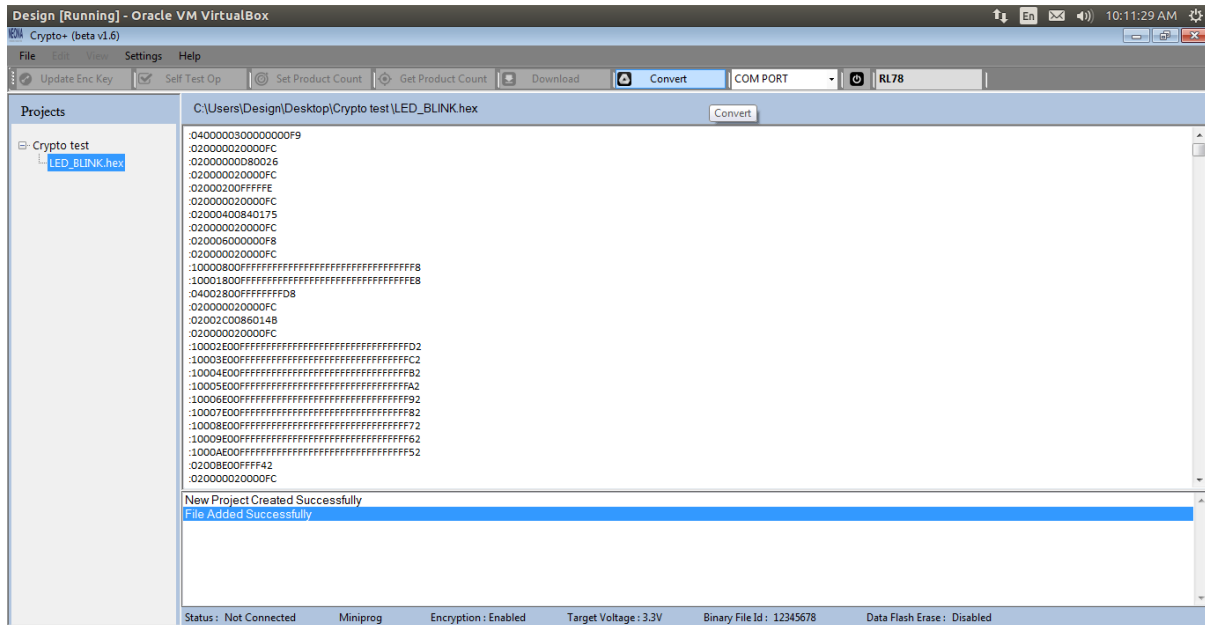

Figure 2.24
STEP 1: Disable the encryption. Click on the required hex or mot file in the tree-view & Click **convert** button displayed in the toolbar as shown in figure 2.24.